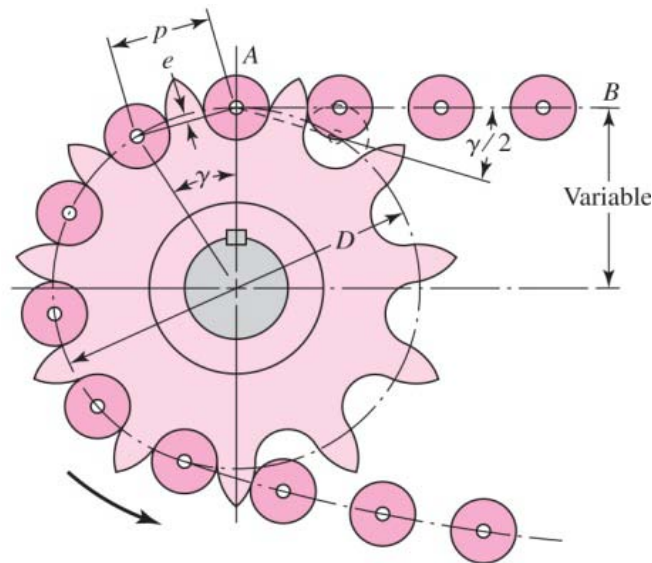

Figure 3(c)
- (d) Shaft *a* in Figure 3(d) has a power input of 75 kW at a speed of 1000 rev/min in the counter-clockwise direction. The gears have a module of 5 mm and a 20° pressure angle. Gear 3 is an idler. Draw a free-body diagram of gear 3. Calculate all the forces that act upon gear 3.